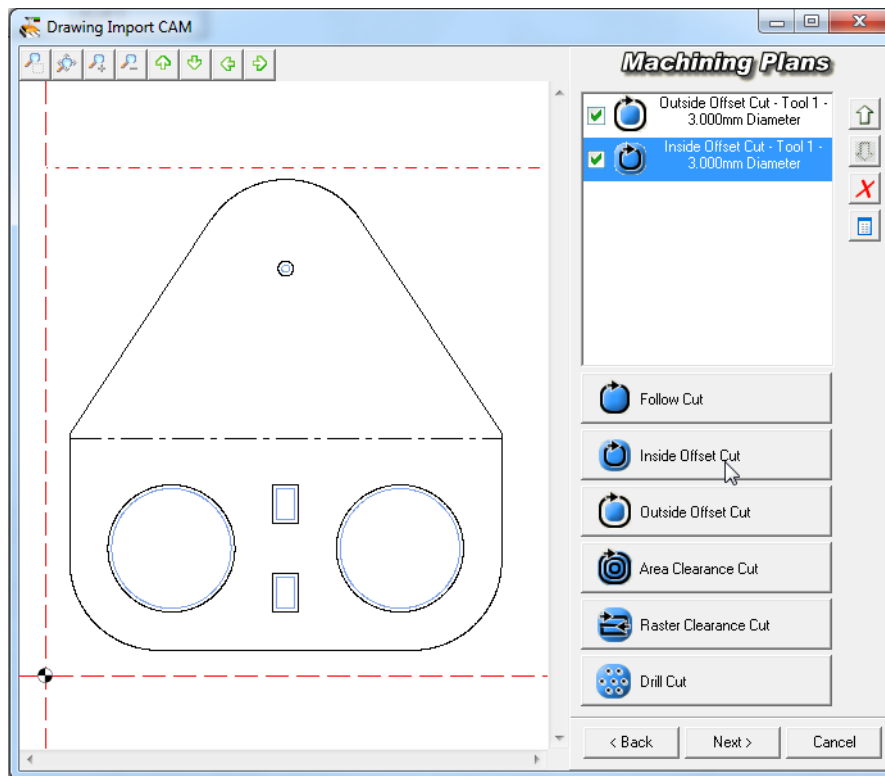

Figure 16
- Repeat the procedure to select the Inside Offset Cut in order to machine the 3 circles and 2 internal slots (Figure 16).